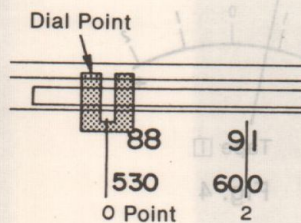

Fig. 15
1. Line up the dial point in the front cabinet assembly with the "0" point graduation as shown in Fig. 15.
2. Turn the variable capacitor gear on the main circuit board all the way in the direction of arrow ③.